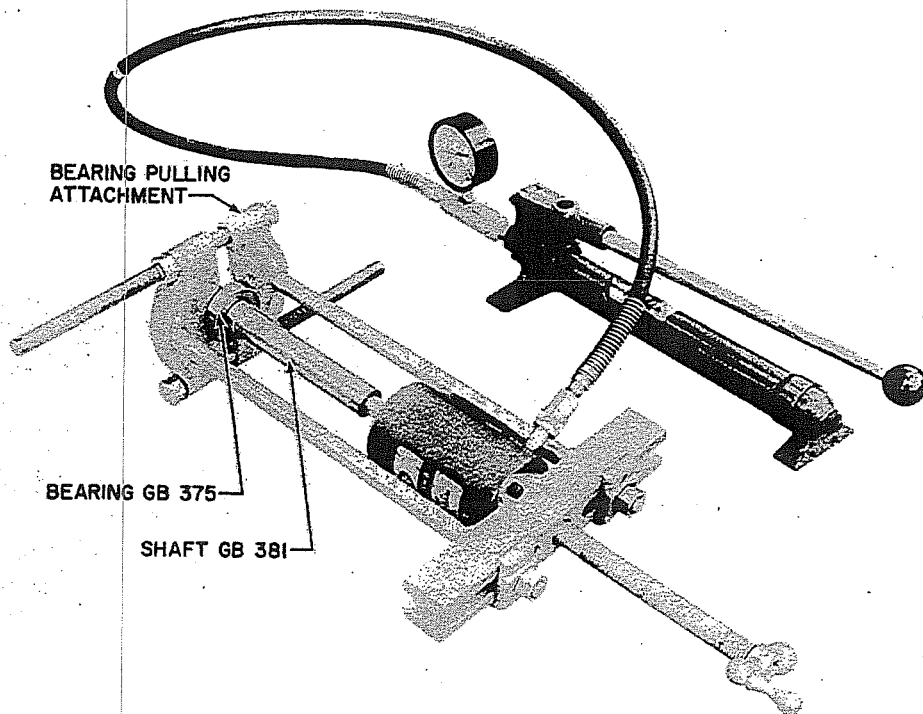

Figure 31. 1 to 1 Shaft, Installation of Bearing GB375
- M. Secure the Bearing Pulling Attachment behind Bearing GB375 and install by applying pressure to Shaft GB381. The bearing seat on the shaft should be cleaned and lubricated prior to installation (figure 31).